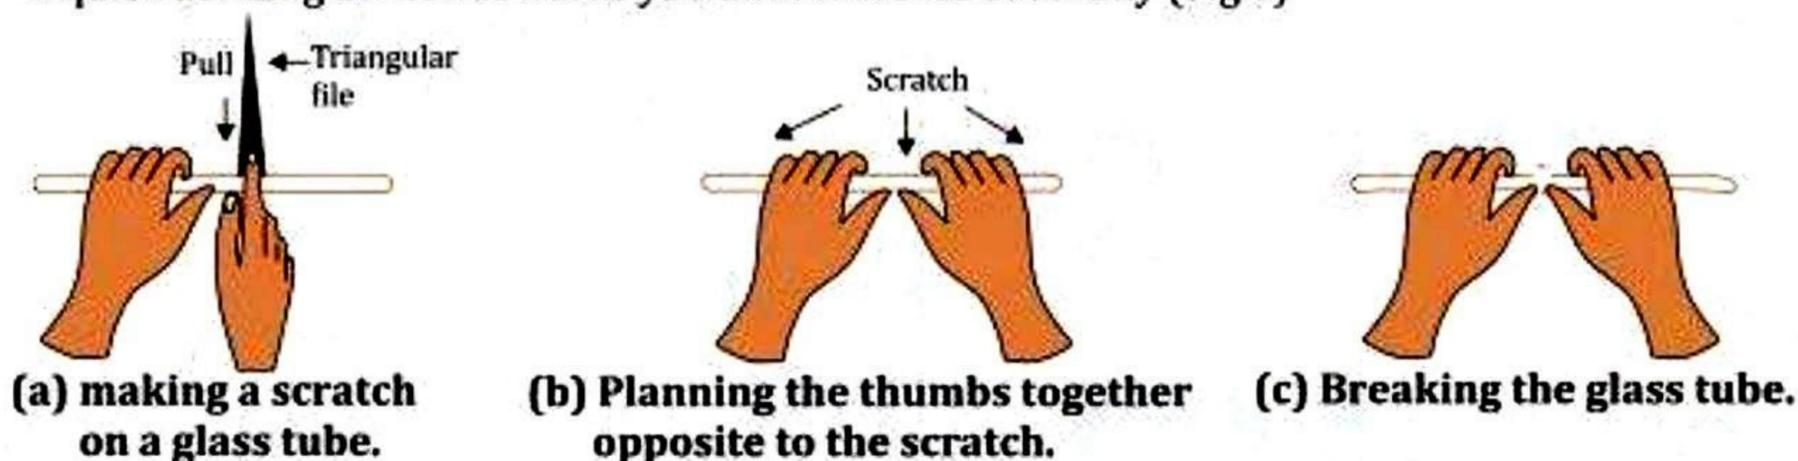

Fig. 1
- (iii) Place the thumbs on each side of the scratch at equal distances from it. Apply gentle pressure and give a quick bending motion towards you until it breaks smoothly (Fig.1)